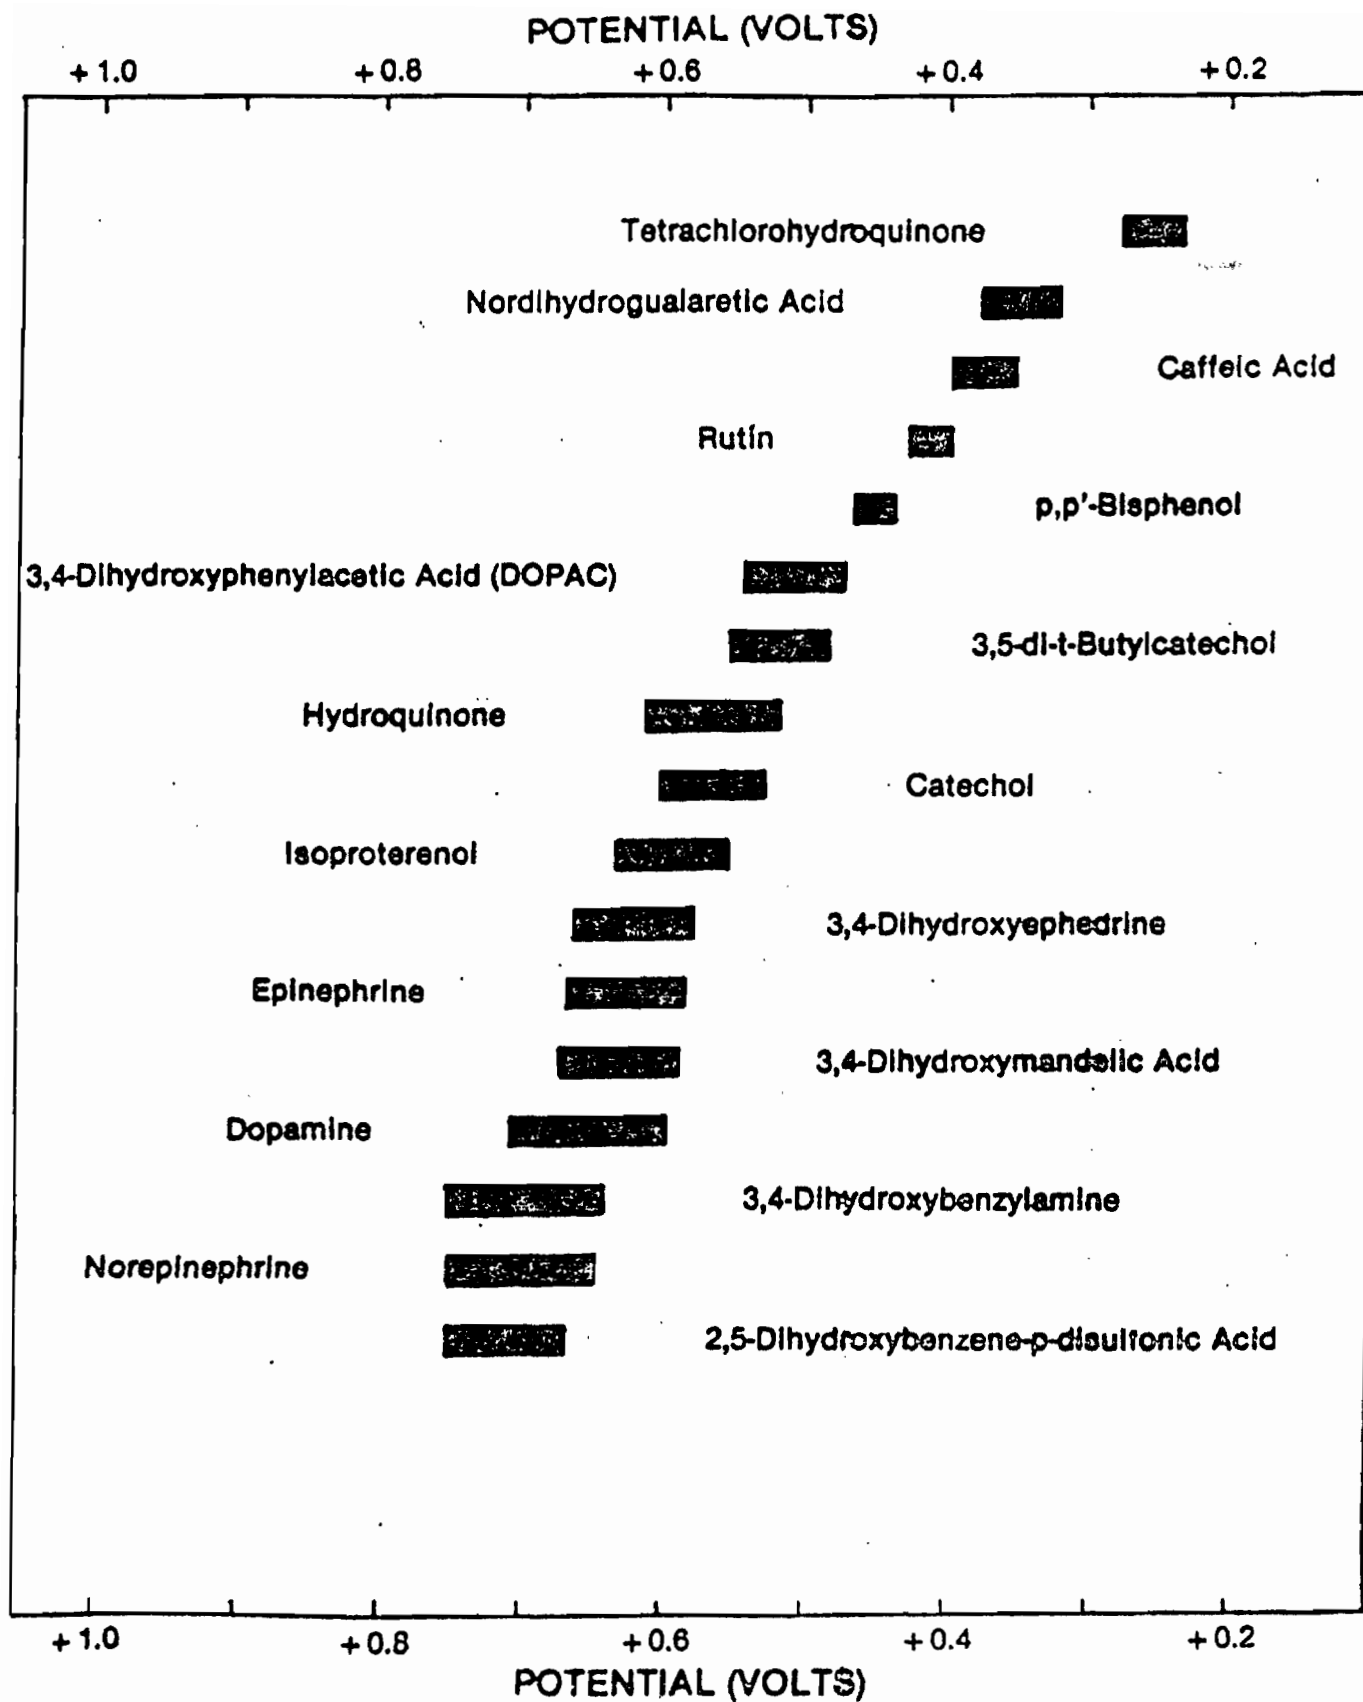

Figure 7 Oxidative Cyclic Voltammetric Data for Biologically Important Catecholamines and Other Easily Oxidized Diphenols.
- Figure 7 Oxidative Cyclic Voltammetric Data for Biologically Important Catecholamines and Other Easily Oxidized Diphenols.